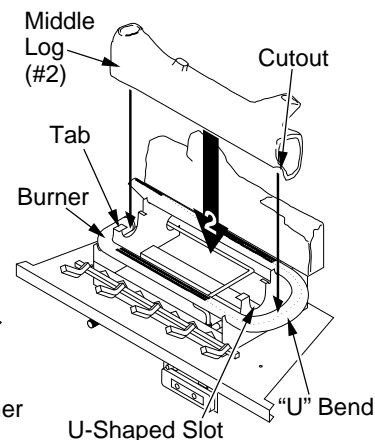

Figure 42 - Installing Middle Log (#2)
2. Place the base of the middle log (#2) in the U-shaped slots of the grate base in front of the back log. The cutout on the right of the middle log should fit over the burner (see Figure 42). Make sure the front of the middle log is resting on the tabs of the grate base and the cutout area is centered over the burner "U" bend.